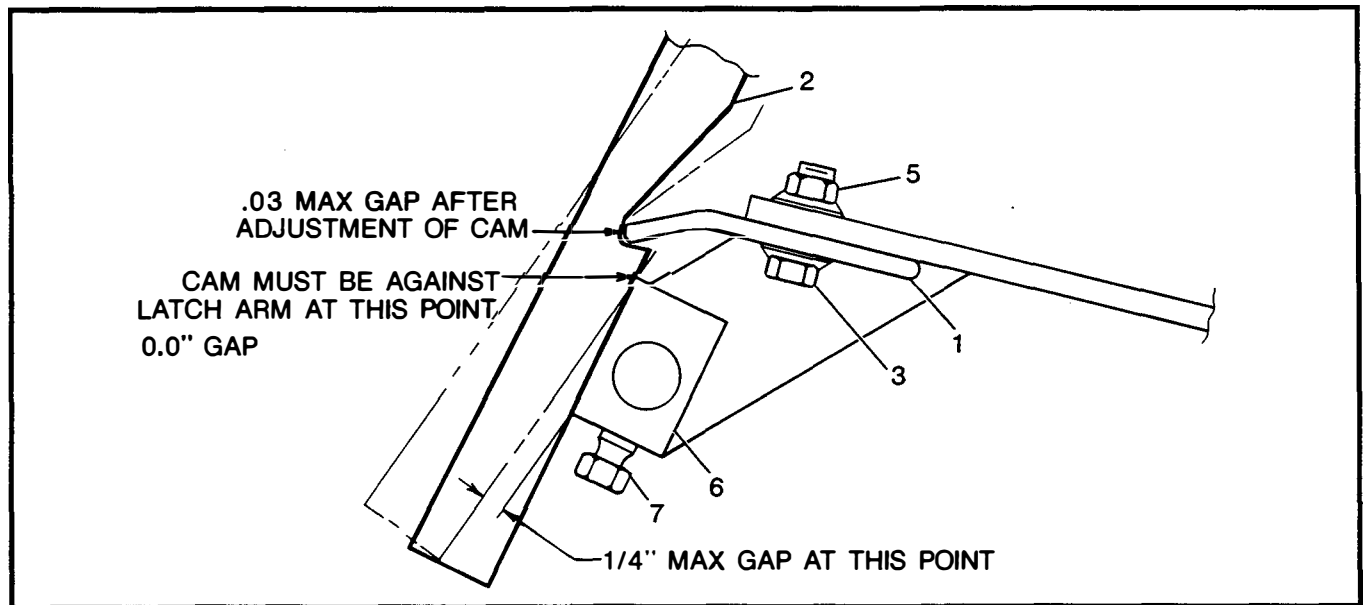
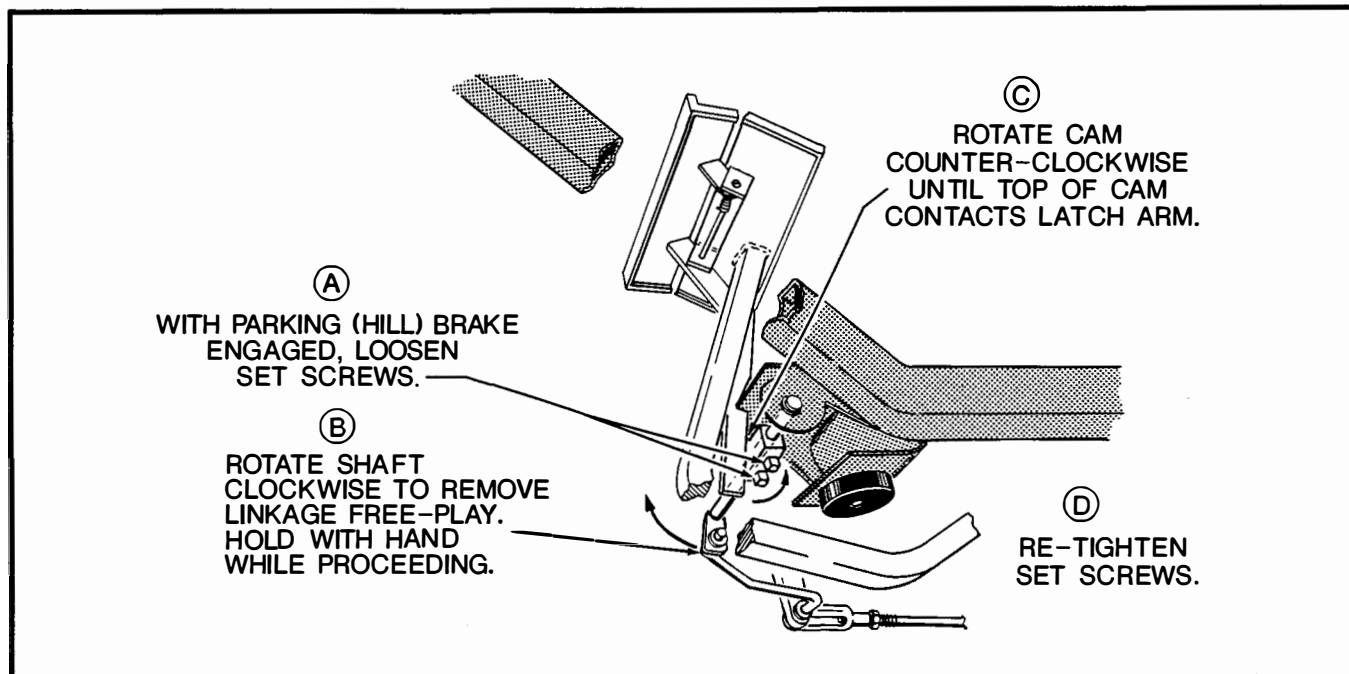

FIG. G-10 CATCH BRACKET ADJUSTMENT
FIG. G-11 PIVOT ARM ASSEMBLY
PARKING (HILL) BRAKE ADJUSTMENT (FIG. G-10)
- Inspect the catch bracket (1) and latch arm (2) for any damage or wear.
- Roll the floormat back from the brake area to provide access to the 1/4" catch bracket mounting nuts (5).
- Using a 7/16" wrench, remove the 1/4" x 3/4" long bolts (3), lock washers (4), and the nuts (5) which retain the catch bracket (1) to the brake bracket.
- Check the cam (6) for proper adjustment. When the latch arm is engaging the catch bracket, there must *NOT* be any gap between the top of the cam and the latch arm (FIG. G-10).
- Loosen the two cam setscrews (7).
- Rotate the pivot arm assembly (1, Fig. G-11) upward (clockwise when viewed from the driver's side of the vehicle) to remove the free play in the linkage.